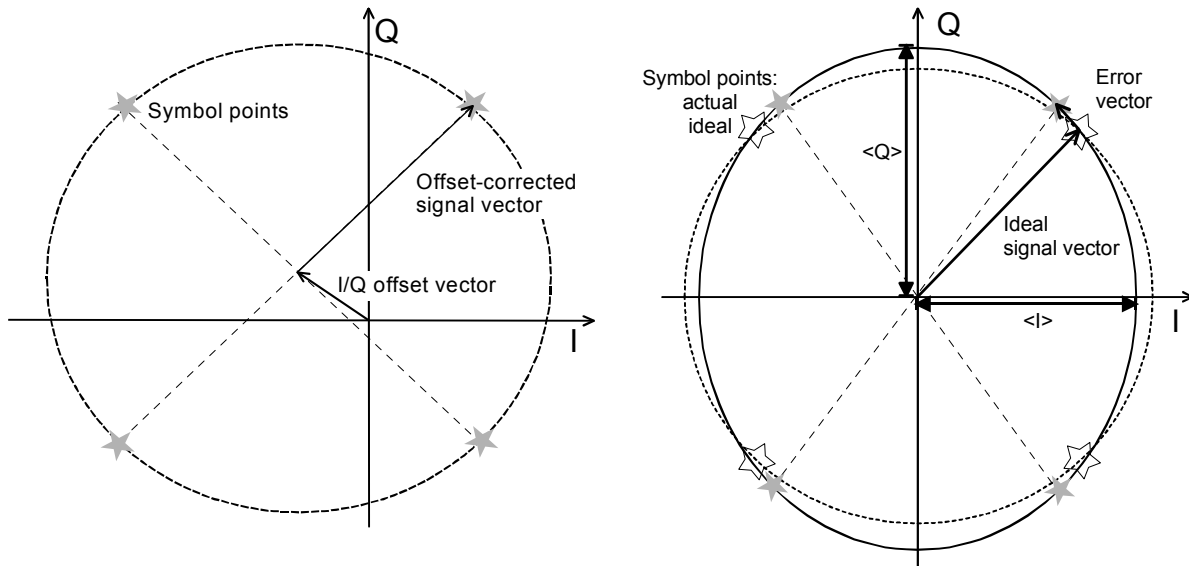

Fig. 4-14 Modulation errors in the I/Q constellation diagram
- I/Q Origin Offset* Origin offset in the I/Q constellation diagram reflecting a DC offset in the baseband signal (see Fig. 4-14 on page 4.41 and Equation 4-1). The origin offset corresponds to a RF carrier feedthrough in spectral representation.
- I/Q Imbalance* Amplitude difference between the in-phase (I) to the quadrature (Q) components of the measured signal, normalized and logarithmized (see Fig. 4-14 on page 4.41 and Equation 4-2). The I/Q imbalance corresponds to an unwanted signal in the opposite sideband in spectral representation.
Fig. 4-14 is an idealized representation of the modulation errors where the effects of a pure origin offset (left diagram) and of a pure I/Q imbalance (right diagram) are completely disentangled. The I/Q offset in dB is the logarithmic ratio of the I/Q offset vector (i.e. the estimated DC-offset of the measured signal) to the average offset-corrected signal vector:
Note: *The I/Q imbalance is always calculated without origin offset regardless of the Analysis Mode set (see Fig. 4-14). Conversely, the waveform quality is always calculated with origin offset.*